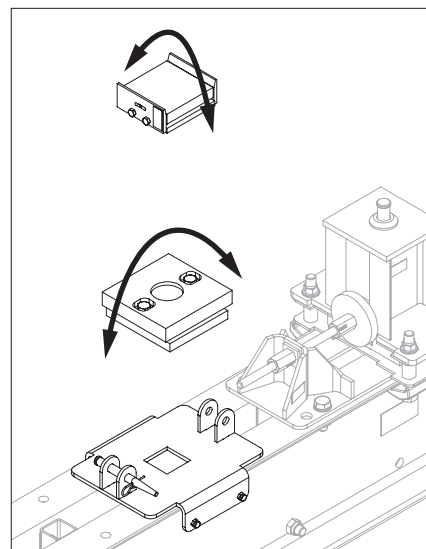

Fig. B4.07
- Fig. B4.07 shows the direction of movement of the two bearings.